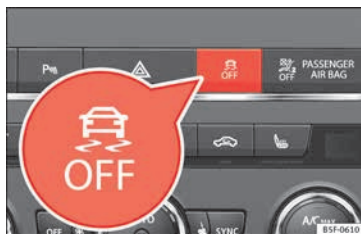

Fig. 189 Centre console: Button for switching on/off the ESC and ASR
- Press the button  » **Fig. 189** for approximately 1 second to switch off the ASR function.
- Press the button  » **Fig. 189** for approximately 3 seconds to switch off the Electronic
- The ASR and ESC function are reconnected by pressing the button  » **Fig. 189**.